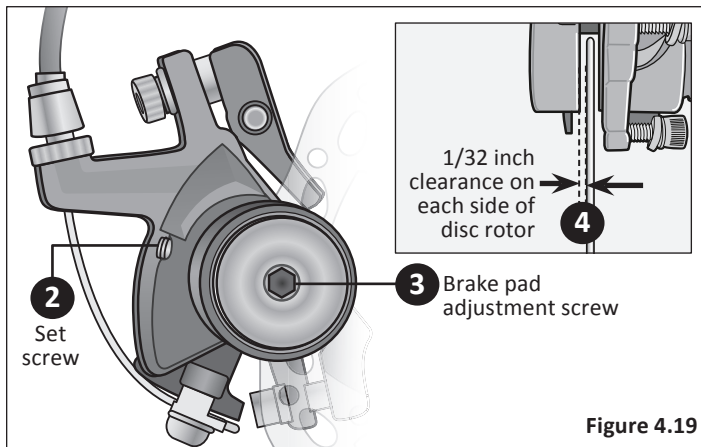

Figure 4.19
- 1 Insert a 1/32" spacer gage between the disc rotor and brake pad. **Figure 4.19**
- 1 If the brake cable wire is not attached to the brake arm then loosen the cable anchor bolt until you can see a gap large enough for the brake cable wire. **Figure 4.19**